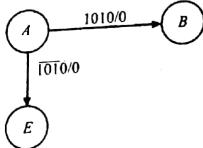

Fig. 8.15 (a) State diagram after step 1
**Step 1:** Let the machine be in some initial state  $A$ . If the combinations punched is 1010, it goes to state  $B$ , else it goes to state  $E$  as shown in Fig. 8.15 (a).